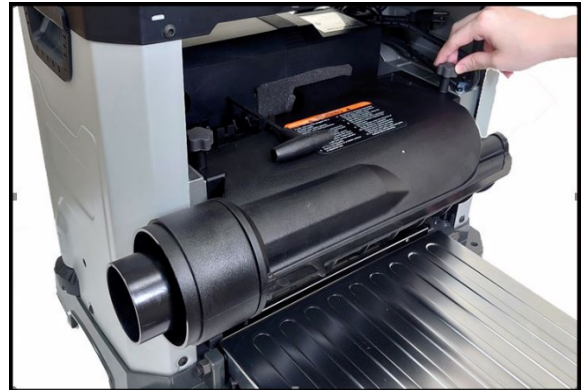

Figure 2
1. Facing the rear of the machine, locate the dust port on the cutterhead assembly by turning 2 dust port knobs. Position the dust port assembly and secure in place with the 2 supplied dust port knobs. See FIG 2.